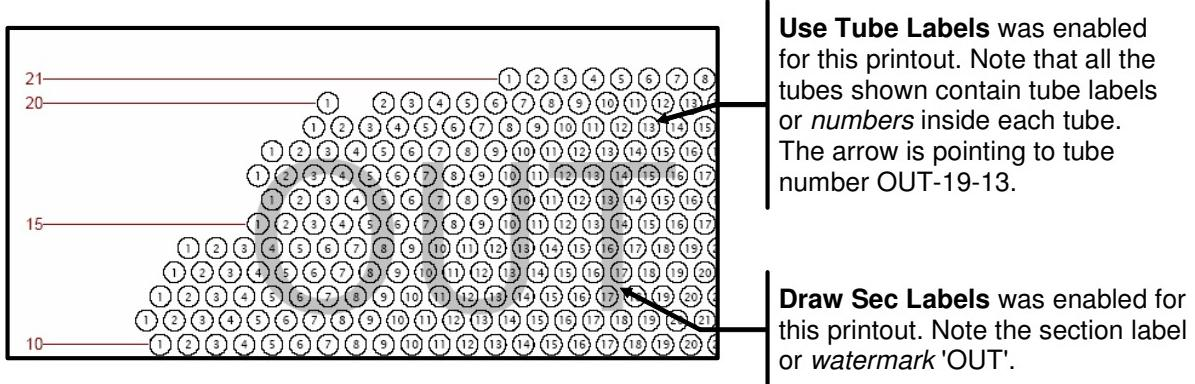

Figure 23. Examples of Tube Labels and Section Labels (*Watermarks*)
- Draw Sec Labels:** When enabled (*green*), section labels (*or watermarks*) will be printed on the hard-copy map by the MakeComp & DBMS software modules. These *watermarks* will appear only on the hard-copy printout as shown in Figure 23.
- Use Tube Labels:** When enabled (*green*), tube numbers will be printed within each tube on the hard-copy tubesheet map in the MakeComp & DBMS software modules. These tube numbers will appear only on the hard-copy printout as shown in Figure 23.